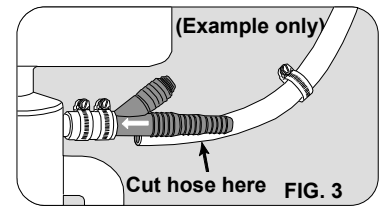

FIG. 3
The ET116-001 is designed to be used downstream of an approved airgap faucet and dishwasher air gap (when installed in conjunction with a dishwasher). Most dishwashers have a built-in check valve, but these often fail. Some states require the installation of a manufactured dishwasher air gap, while other states permit the drain hose to loop up from the dishwasher to the underside of the sink before descending to the disposal (See Fig. 3). Do not install an ET116-001 (with dishwasher) in the absence of one of these types of airgaps – use an ET109-001 or ET112-001.
7. Lift the tail of the adapter slightly higher than horizontal, and position semi-taut hose behind it. Measure the hose against the selected barb. (See Fig. 3)
8. Cut off excess hose squarely with a sharp knife. Reuse original spring or hose type clamp by sliding loosely over the hose. (See Fig. 3)